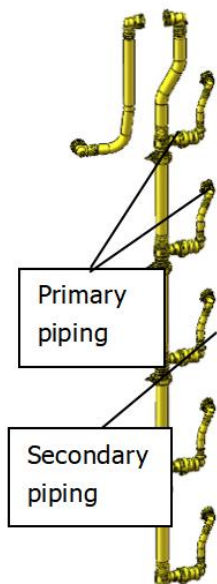
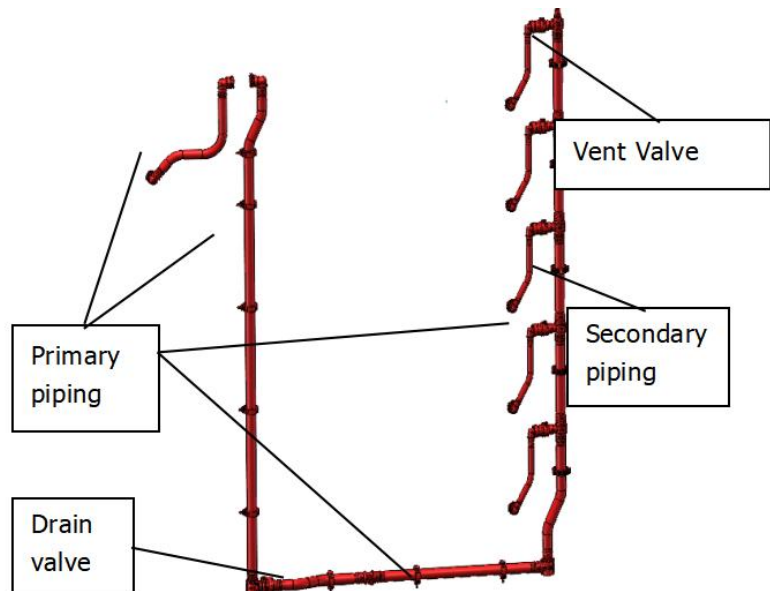

Figure 7-5
Figure 7-6
1. Piping: Figure 7-5 Outlet Piping, Figure 7-6 Inlet Piping;